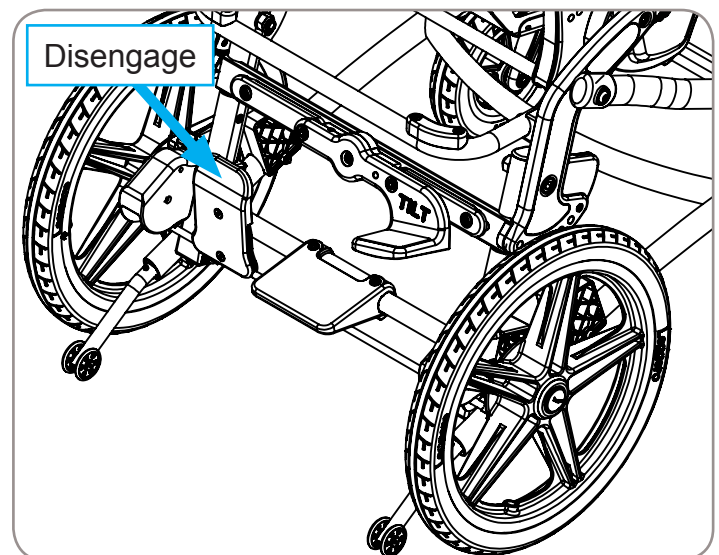

Figure 5
3. To disengage wheel lock, push forward on top of the red pedal Reference Figure 5.